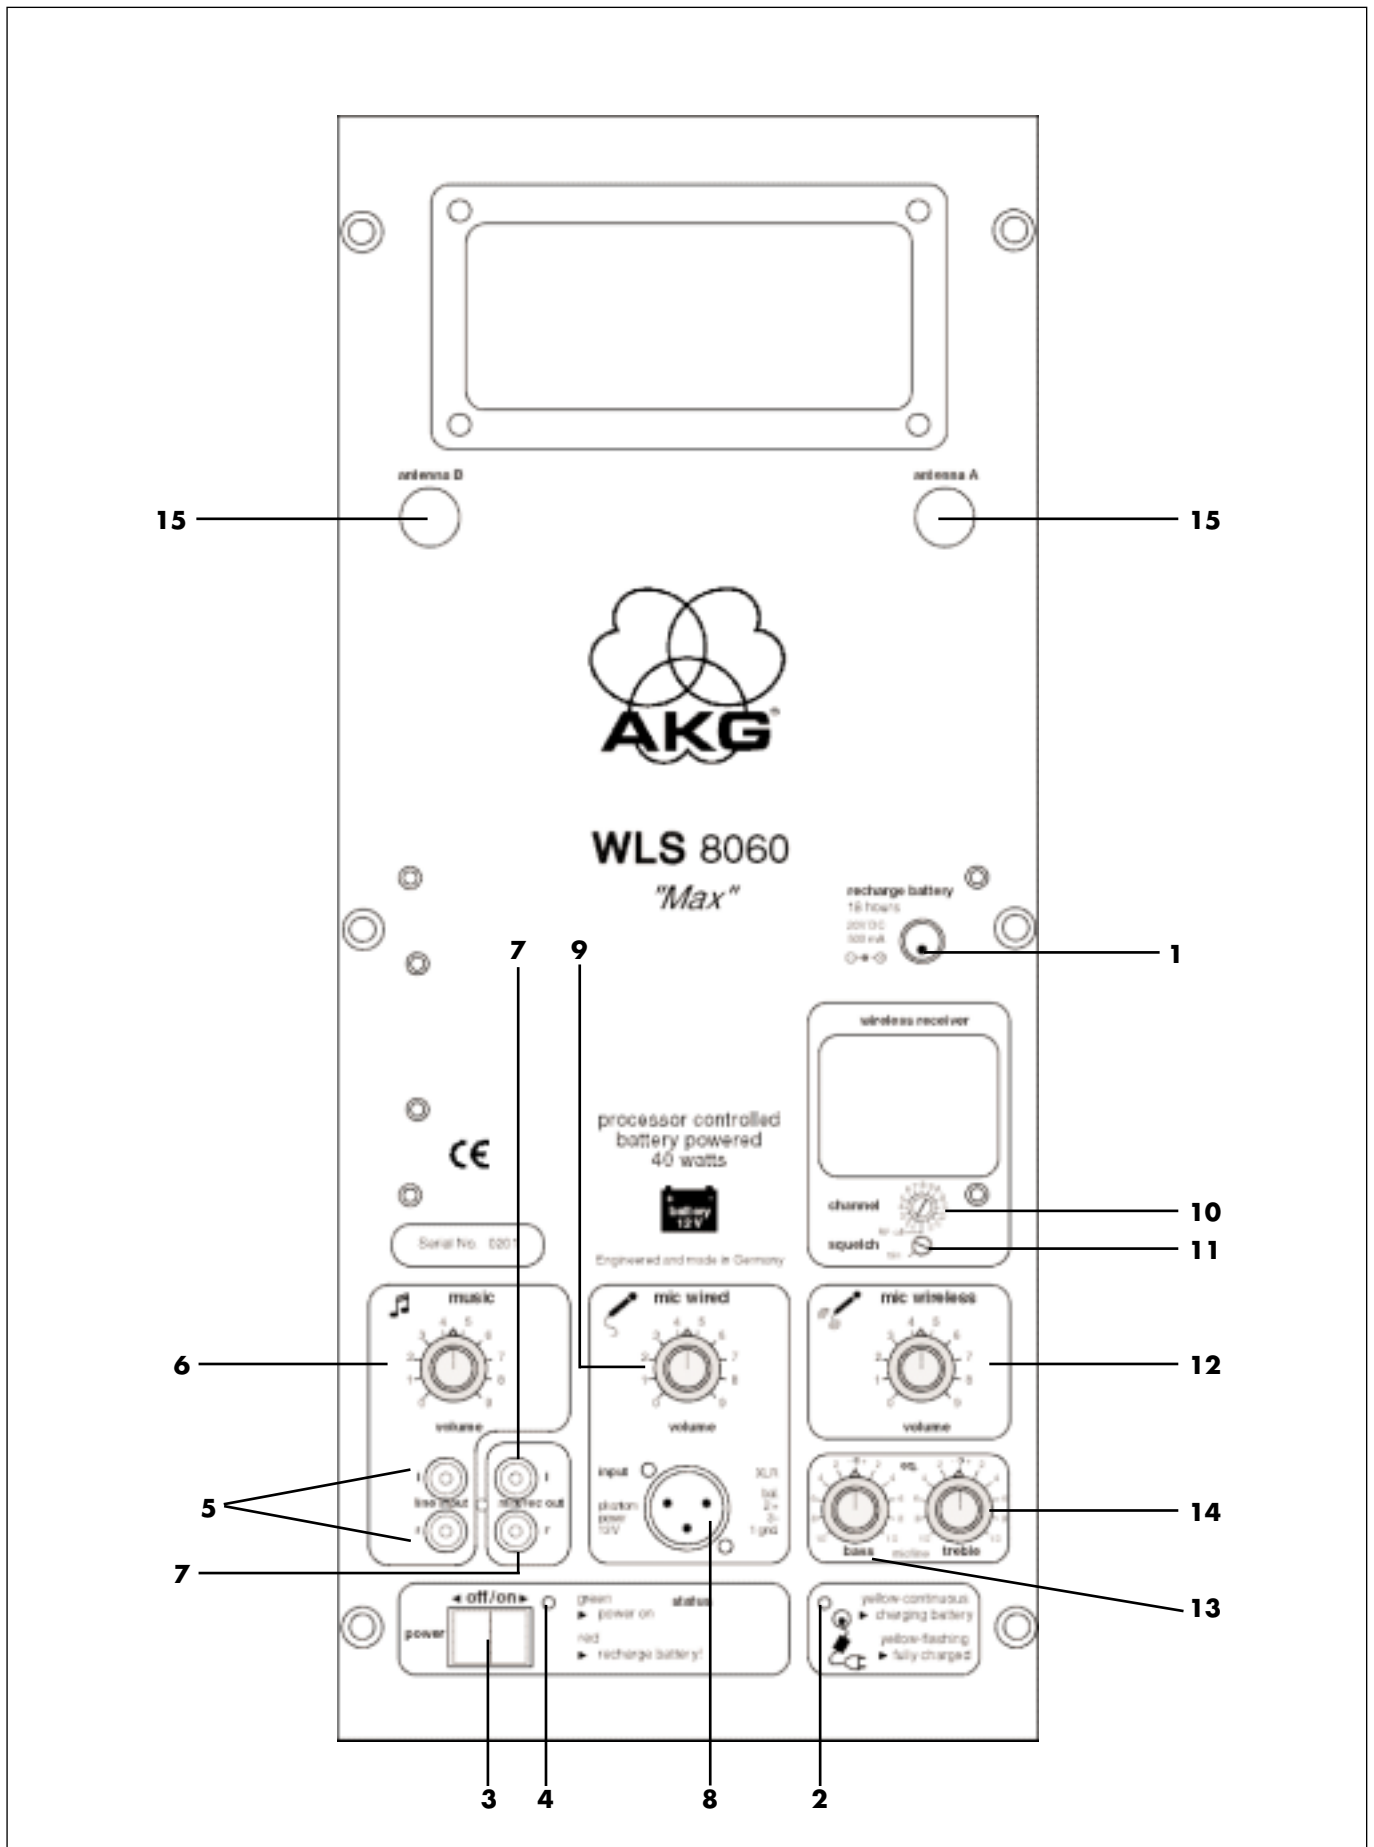

Abb. 1: Bedienelemente WLS 8060
All controls, inputs, and outputs of the WLS 8060 are located on the loudspeaker enclosure rear panel. Refer to fig. 1 on the next page.
1. Plug the DC cable on the supplied AC adapter into the RECHARGE BATTERY jack (1) on the WLS 8060 rear panel (see fig. 1).